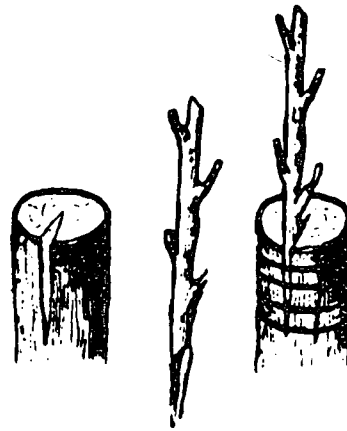
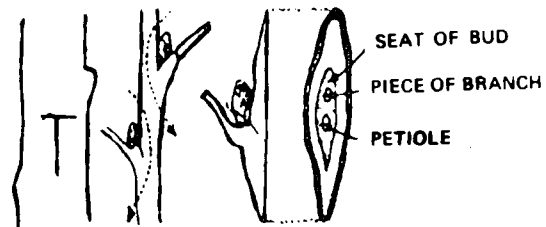

Fig. 7
Fig. 8
*Grafting* is the insertion of a bud (Fig. 8) or a piece of branch with a bud (Fig. 7) into a growing stock of another plant.